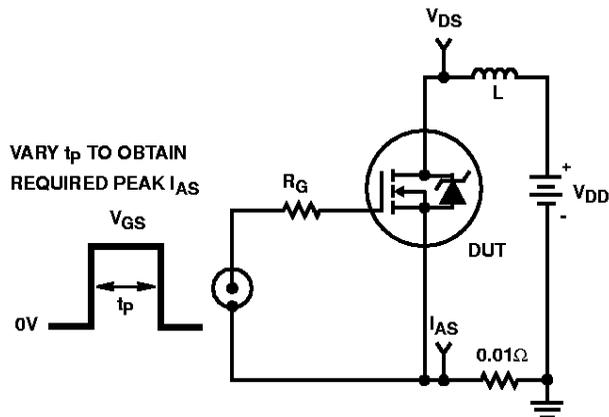

FIGURE 15. UNCLAMPED ENERGY TEST CIRCUIT
4.  $V_{DD} = 50\text{V}$ , starting  $T_J = 25^\circ\text{C}$ ,  $L = 380\mu\text{H}$ ,  $R_G = 25\Omega$ , peak  $I_{AS} = 14\text{A}$ . See Figures 15, 16.